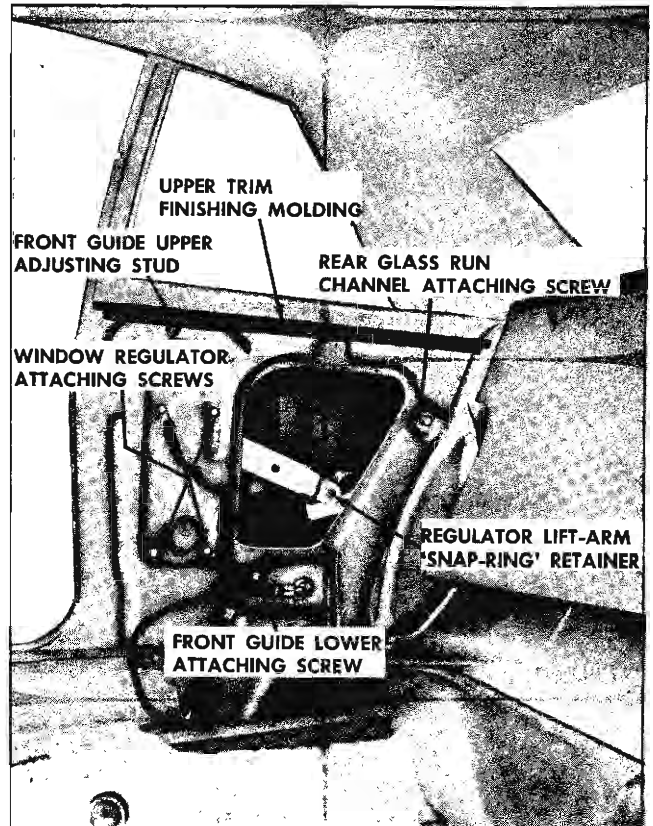

Fig. 13-4 Rear Quarter Hardware - 27 Styles
3. With window in half-down position, remove snap-ring retainer securing regulator lift arm to pivot pin (Fig. 13-4).
2. Remove window guide upper adjusting stud and lower attaching screws (Fig. 13-4) and remove guide assembly.
4. Remove regulator attaching screws (Fig. 13-4) and remove regulator through access hole.
2. With window in full up position, remove guide upper adjusting stud and lower attaching screw (Fig. 13-4). Disengage guide from nylon guide on lower sash channel and remove guide.
2. Remove rear glass run channel attaching screw (Fig. 13-4).
a. Operate window to full up position and loosen window regulator attaching screws (Fig. 13-4).
a. Loosen rear glass run channel attaching screw (Fig. 13-4).